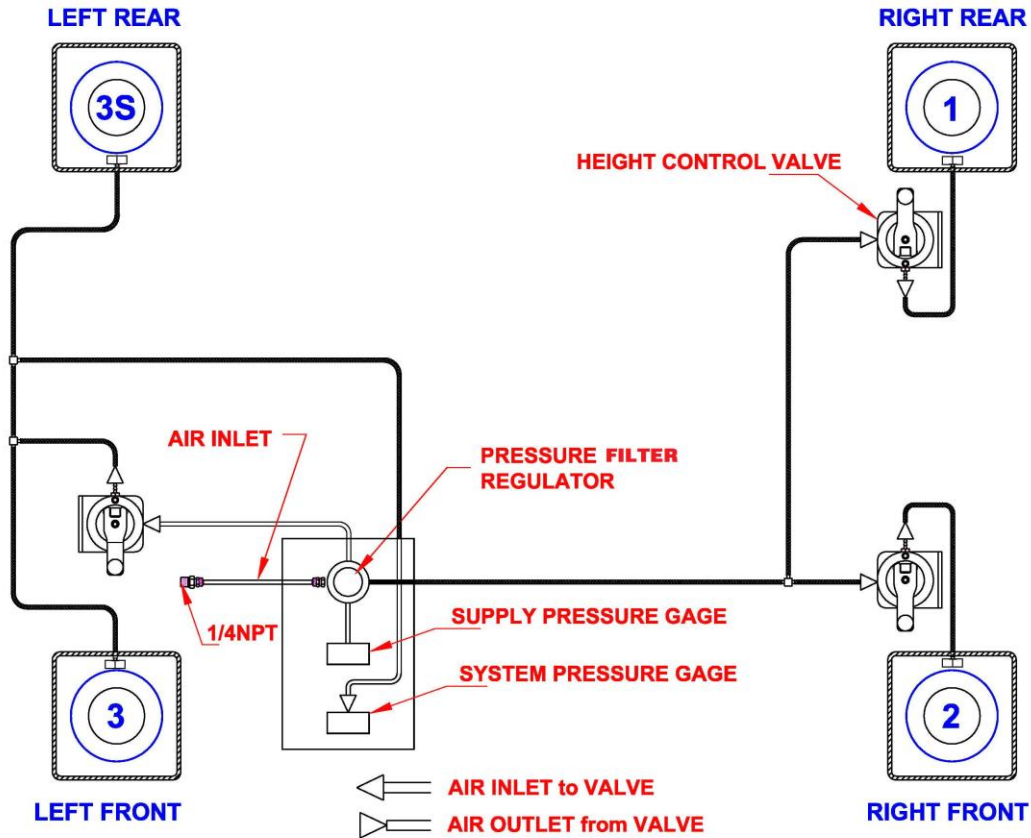

Figure 3a. 9101/9102 Airline Schematic
1. Using the Umbilical Assembly (1/8"OD X 10ft. polyurethane tubing and 1/4" NPT fitting), connect the pressurized air source to the inlet of the Filter Regulator (as shown in Fig. 3a and 3b). The polyurethane tubing may be shortened by cutting with a razor blade. If additional pipe fittings are required to complete the connection at the pressurized air source, they must be supplied by the user.